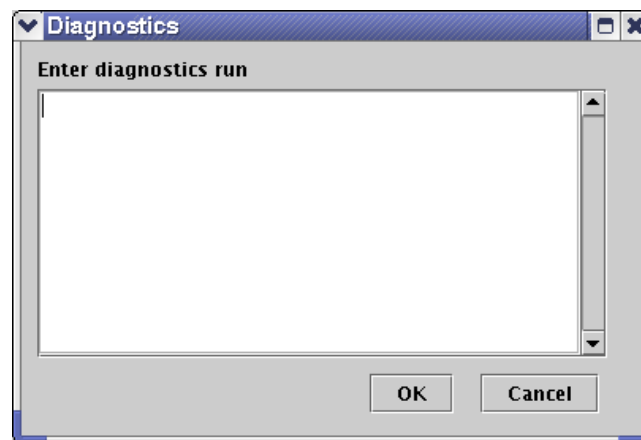

Figure 5-26. Diagnostics Window
5.4.1.7.4 Diagnostics Run Enter Button. The **Diagnostics Run Enter** button allows the operator to describe the diagnostics run on a particular part. After the button is pressed, the Diagnostics window (Figure 5-26) will appear. The operator types a description of the diagnostics into the window. To save the data, the operator needs to select the **OK** button and the window will close. If the **Cancel** button is pressed while the window is open, the description in the window will be deleted, and the window will close.